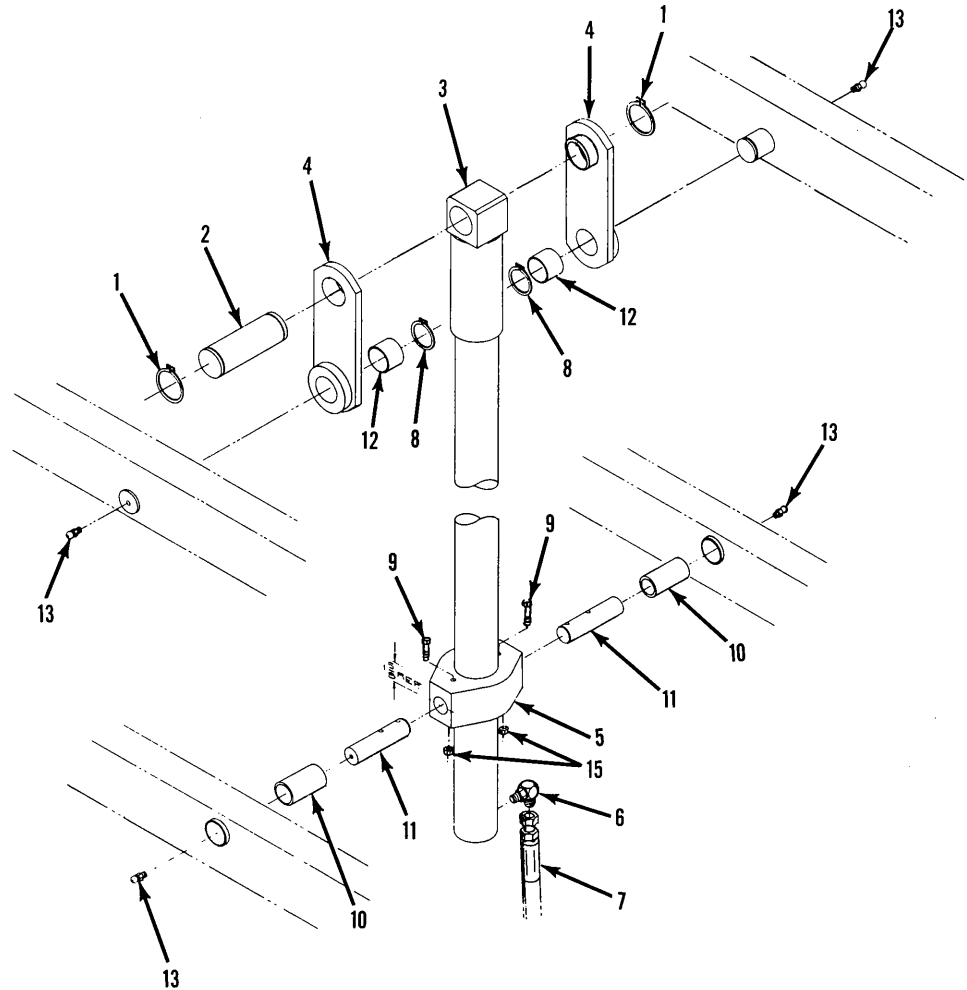

Figure 5-14. Lift Cylinder Removal
5-23. LIFT CYLINDER REMOVAL (Figure 5-14).
- (5) Lubricate the rod tube and install in the barrel tube.
- (6) Thread the gland nut onto the barrel tube and tighten securely.
- (7) Install the bleeder screw assembly.
- (8) Install the velocity fuse into the barrel tube port.
e. **Installation** (Figure 5-14).